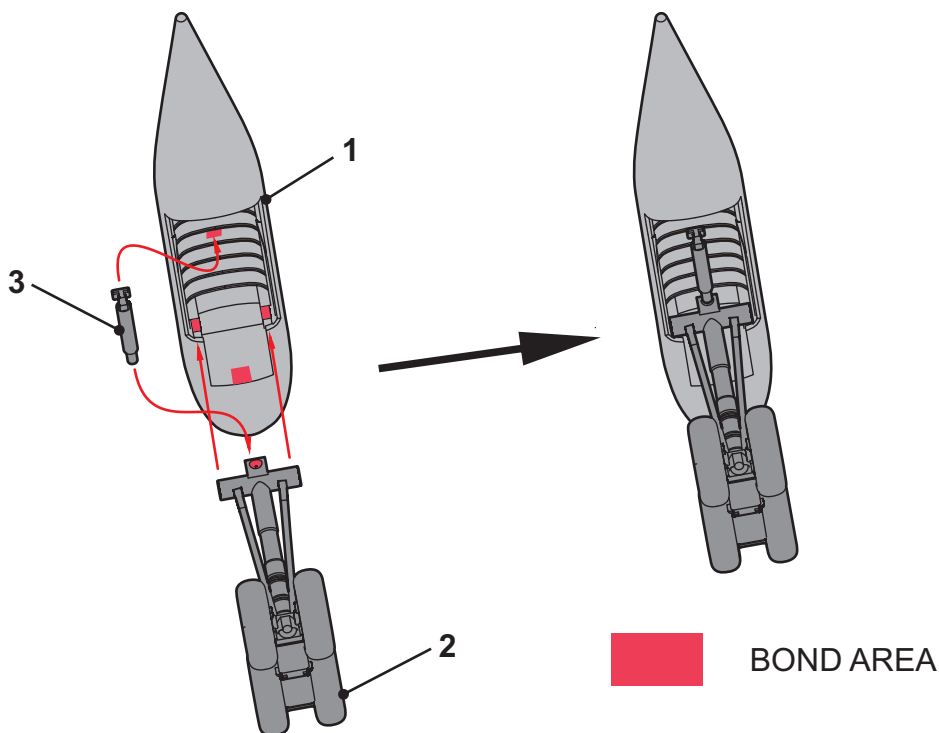

Figure 7
- (2) Fit the landing gear assembly (2) in to the pod (1) - see Figure 7. The trunnions fit into recesses at each side of the pod. Attach the